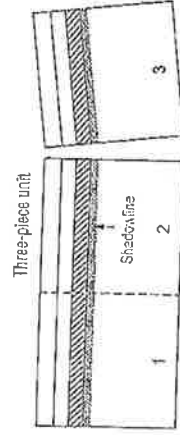

Figure 12-18: Separate to make 3 cap shingles.
3. Apply a full cap shingle over the starter (Figure 12-18), and place fasteners at $5\frac{5}{8}$ " (6 $\frac{1}{4}$ " for metric) up from the exposed bottom edge and 1" in from each side. Nails must not be exposed on the finished roof. All nail heads must be driven straight and must not cut into the shingle surface.
Use Cedar Crest accessory shingles to cover hips and ridges. Carefully separate the three-piece units prior to application, by first folding along the pre-cut lines and then detaching the pieces (see Figure 12-18). No cutting is necessary. There are 30 individual shingles (10 three-piece units) in each bundle. One bundle will cover 20 linear feet. Each 12" x 12" shingle has a shadowline that is a design feature which is visible when applied properly. To prevent shingle damage during application, they must be sufficiently warm to allow proper forming.